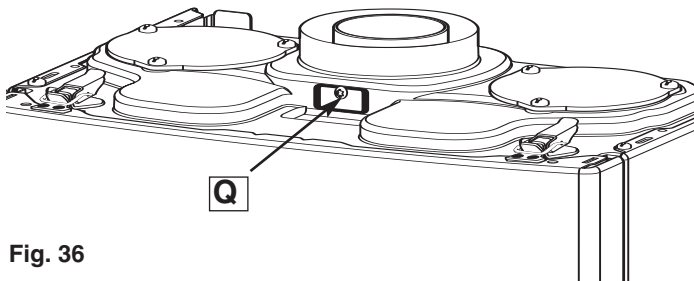

Fig. 36
3. Turn on the combustion analyser, remove the combustion test point plug **Q** (Fig. 36) and insert the analyser probe into the test point;